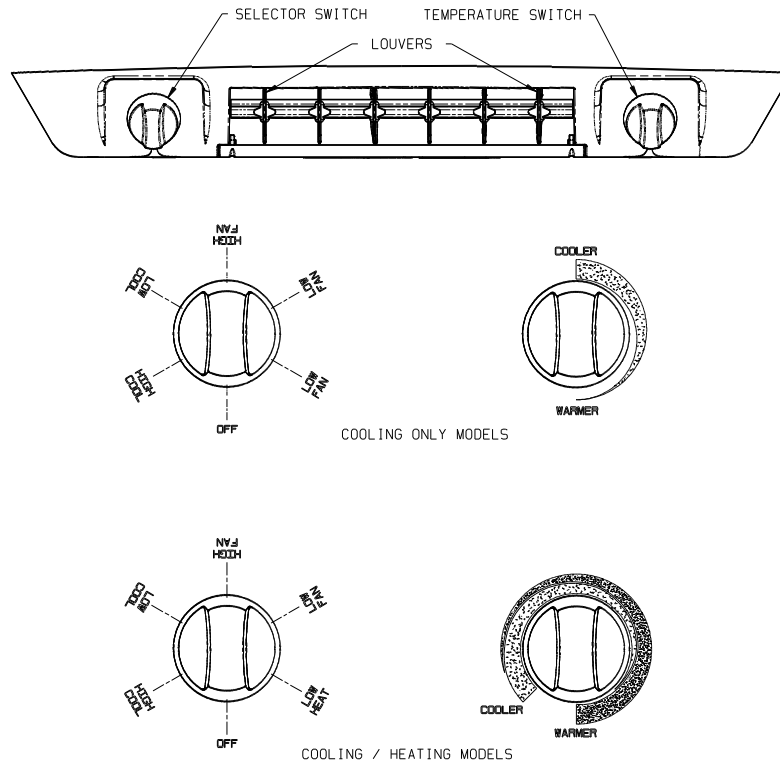

FIGURE 1
A. The Selector Switch – The selector switch determines which mode of operation the air conditioner will be in. By rotating the selector switch, the operator can obtain any system function desired. System functions vary depending upon options of both the roof top unit and ceiling assembly. Figure 1 shows selector switch location and lists all available functions by model.
- B. The Thermostat (temperature control) – The thermostat regulates the “ON” and “OFF” temperature setting at which the compressor will operate (See Figure 1).
- I. For Cooling (Refer to Figure 1, page 3).**
IV. For Heating (Refer to Figure 1, page 3).
V. For Air Circulation Only (Refer to Figure 1, page 3).